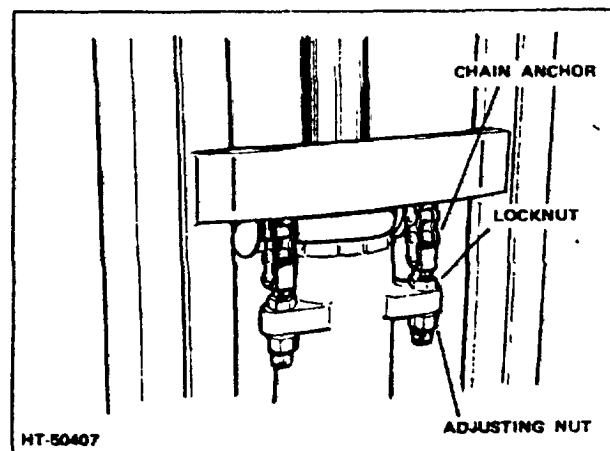

Figure 9. Chain Adjustment (On Cylinder)
To adjust the chain length, refer to Figure 9 for a general view of chain anchor and use the following outline.
2. Loosen the chain anchor locknuts. (Figure 9)